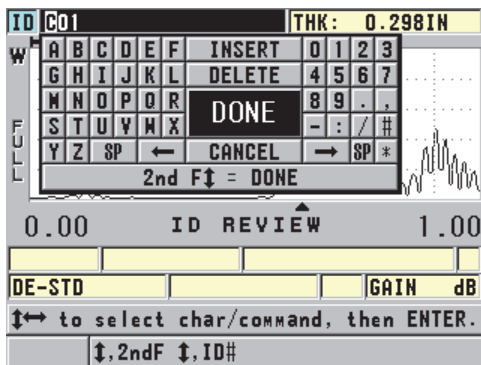

Figure 6-37 Editing the ID # edit mode
4. Press **[2nd F]**, **[FILE]** (ID#) again, and then edit the ID value (see Figure 6-37 on page 120).